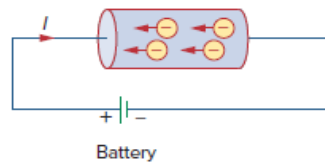

Figure 1
1. The charge flowing through the element of electric circuit is plotted in figure1. If the current flowing through the element is given by